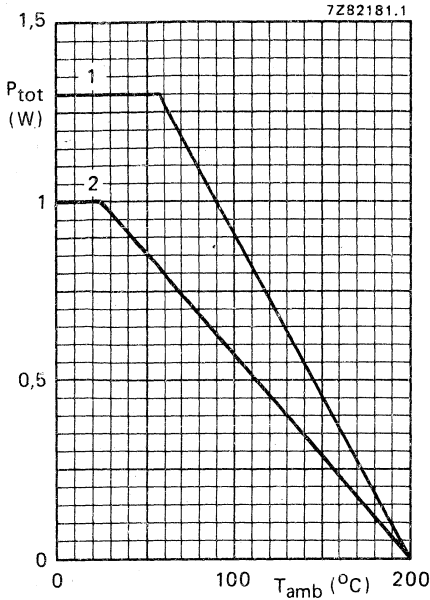

Fig. 2 Maximum permissible power dissipation versus ambient temperature.
Mounting methods (see Figs 2 and 3)
1. To tie-points (lead length = 4 mm in Fig. 2).
2. Mounted on a printed-circuit board (with lead length of 10 mm in Fig. 2) and print copper area of 1 cm² per lead.